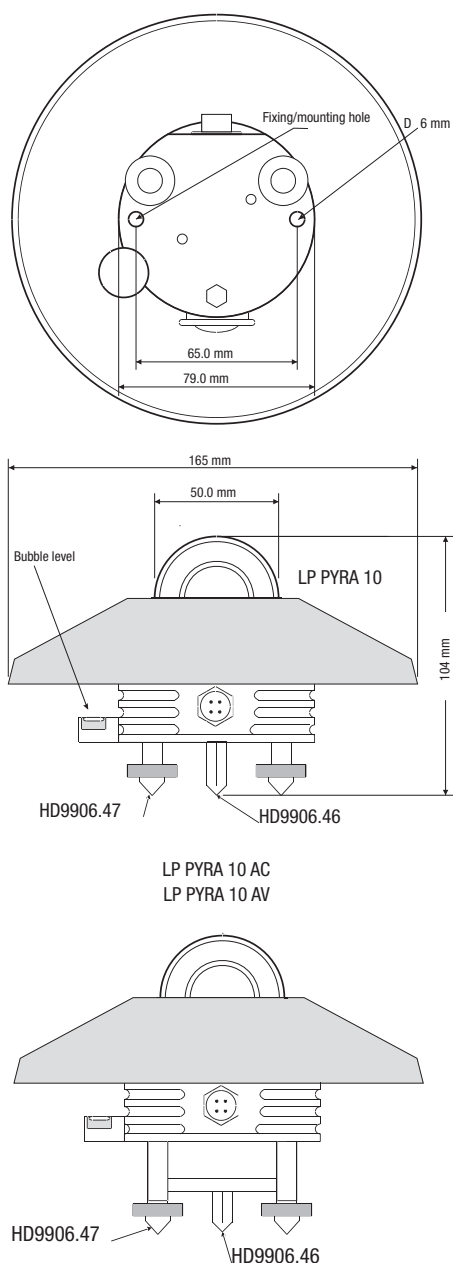

Fig.2
- For an accurate horizontal positioning, the pyranometer LP PYRA 10 and LP PYRA 13 are equipped with a spirit level, which adjustment is by two screws with lock nut that allows changing the pyranometer inclination. The fixing on a flat base can be performed by using two 6mm diam. holes and 65 mm wheelbase. In order to access the holes, remove the screen and re-place it back after mounting, see figure 2.